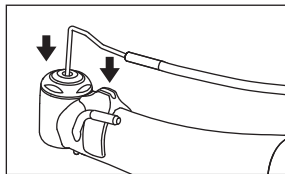

Fig. 8
3) Insert the end of the Internal Spray Nozzle into the hole at the top of the handpiece head, then attach the Internal Spray Nozzle into the slot on the Nozzle Holder. (Fig.8)